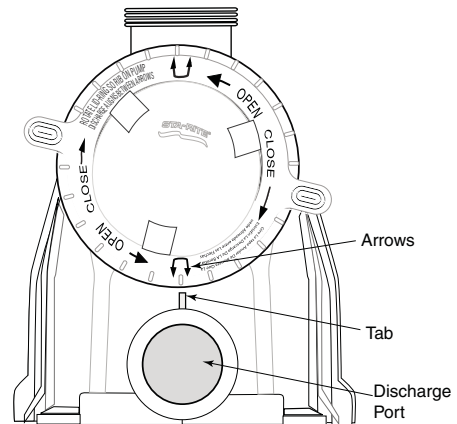

Figure 1 – Strainer basket cover alignment.
- Limit test to 24 hours. After test, visually check system to be sure it is ready for operation. Remove trap lid and retighten hand tight only, see Figure 1.